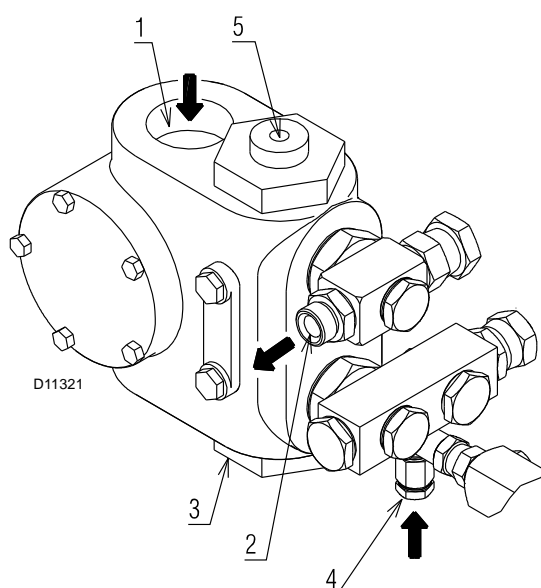

Fig. 21
Key (Fig. 21)
- In order for self-priming to take place, the screw 4) on the pump (Fig. 21) must be loosened to bleed off the air contained in the suction line.
If the pump has been drained, fill it with fuel through the opening on the vacuumeter 4) (Fig. 21) prior to starting; otherwise, the pump will seize.